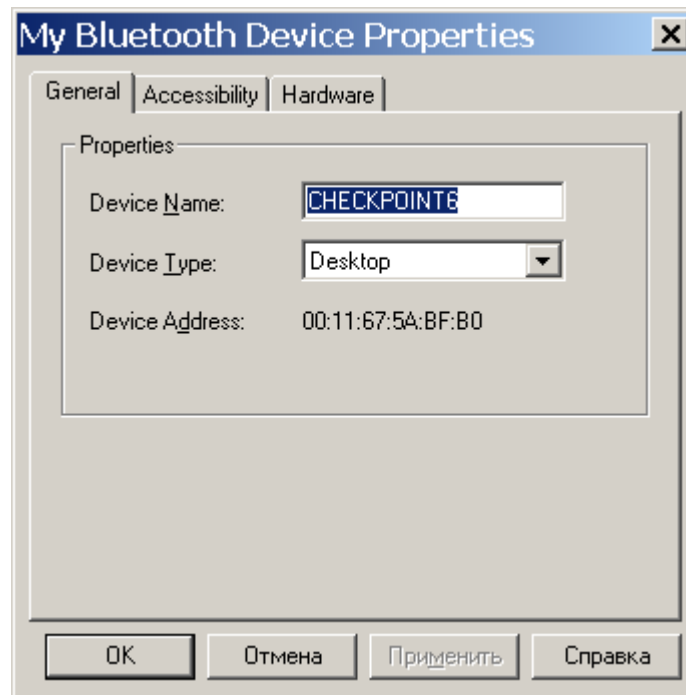
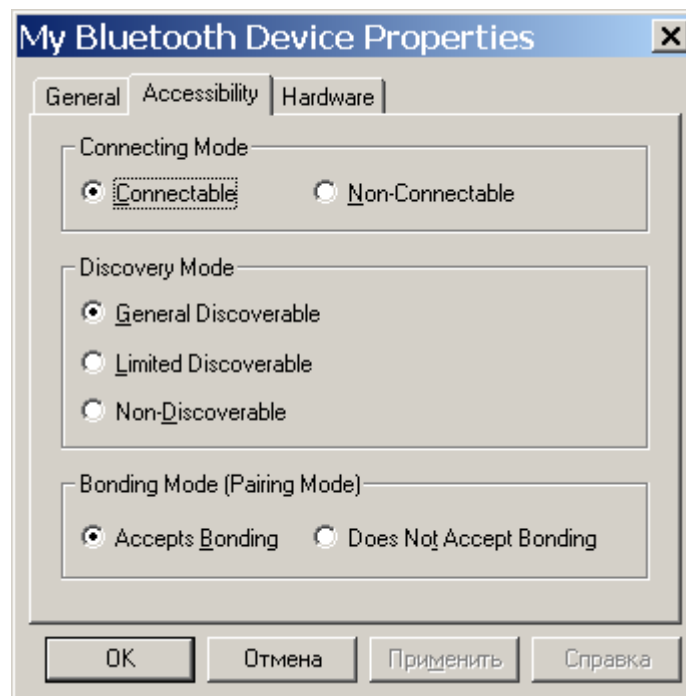

Figure 1 – “My Bluetooth -> Device properties...” tab setup
Figure 2 – “Accessibility” tab setup
- select **My Bluetooth->Device properties...** Enter the name of the device in the **General** tab and the **Device Name:** component. First 10 symbols of the name should be set in **CHECKPOINT** – other symbols are optional and can be set at the operator's discretion (Figure 1). In the **Accessibility** tab select the **Connectable, Mode: General Discoverable, Accepts Bonding** radio buttons (Figure 2);